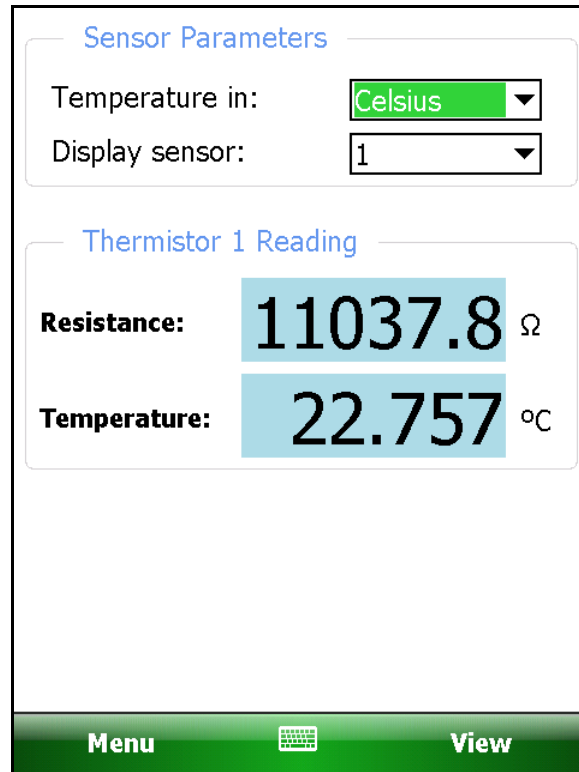

Figure 6 - Live "Generic" Readings
I) If the COM port selected is correct for the USB to RS-485 converter and the string is properly connected, after approximately 40 seconds the status display will change from "Finding sensors..." to "Sensors found: N", where N corresponds to the number of sensors in the string. After a few seconds more, the "Live Generic Readings" screen will be displayed (see Figure 6).
After the application is launched, following a successful connection, the Thermistor String Reader will display the screen shown in Figure 6. This is the Live Readings screen and it is shown in "Generic Readings" mode, meaning that thermistor string is not associated with any pre-defined string configuration. The following sections describe the Thermistor String Reader user interface in greater detail.
Figure 6 shows a typical thermistor output in degrees Celsius as well as in ohms. In "Generic Readings" mode, the two on-screen controls that control sensor measurement are "Temperature in:" and "Display sensor". These controls are described below: